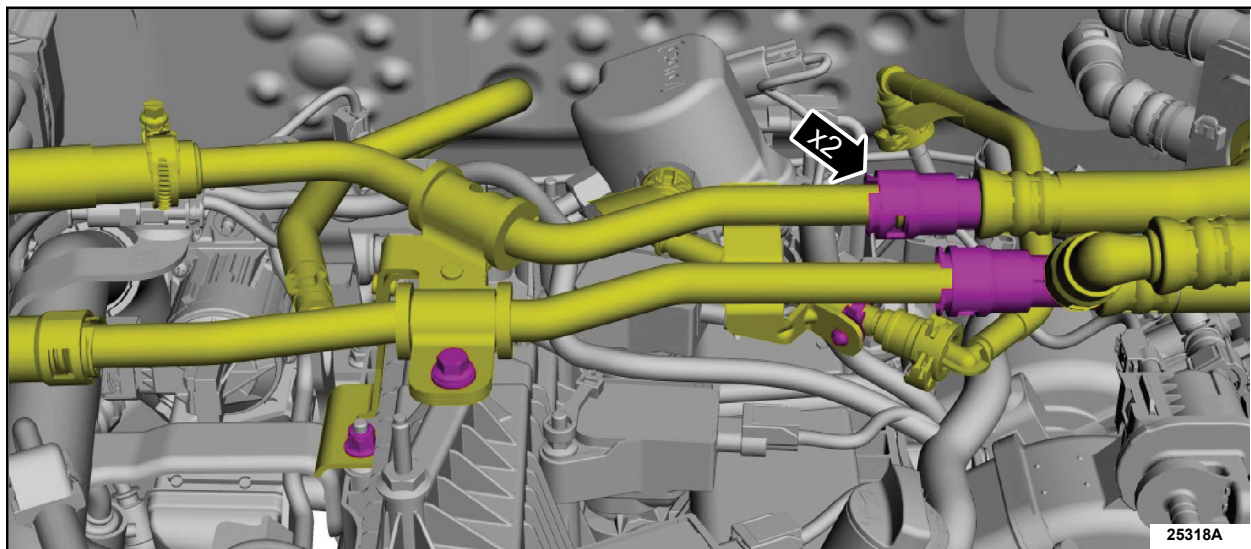

FIGURE 1
2. Release the clamp and remove the coolant hose from the coolant tubes. Disconnect the coolant hoses connectors and position the coolant hoses aside. See Figure 1.
4. Reconnect the coolant tubes to the coolant hose and reinstall the clamp. See Figure 1.